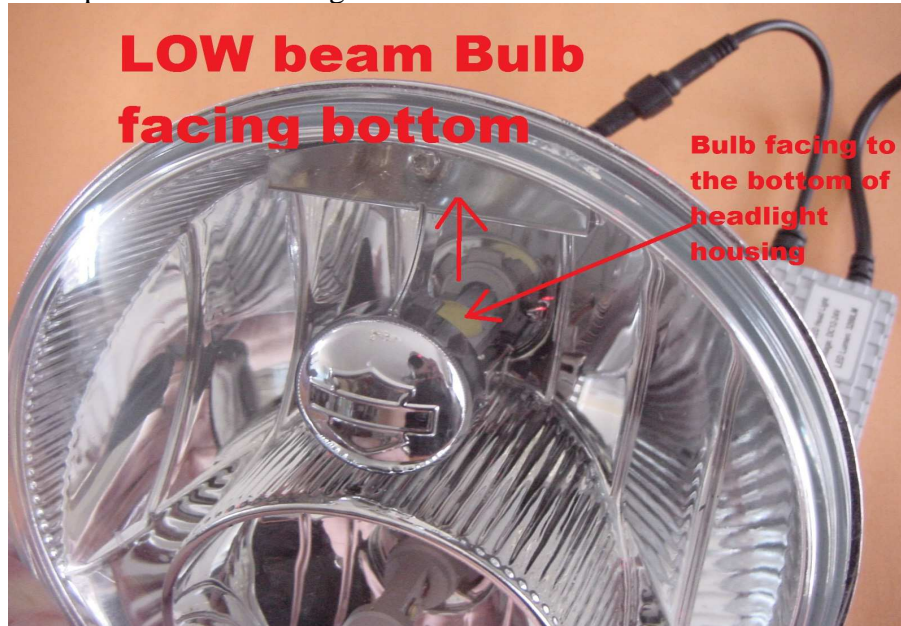

Figure 4
- 5). Make sure that the LED bulb is facing the lower half of the headlight housing as shown in the image below, Figure 4. The LED Bulb can be installed wrong with LED at a slant (45 degrees). So remove, turn and realign so that it is aligned as the image below. Turn LED bulb clockwise until locked in place. See also images at the end of this document for more closeup views.